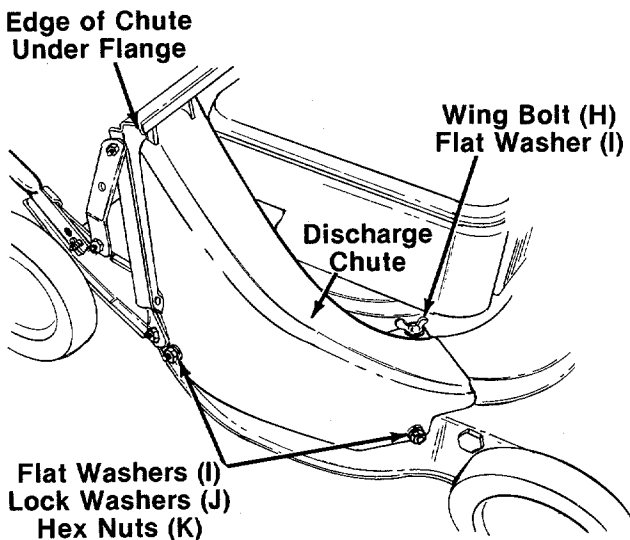

FIGURE 16.
- a. Slide the top edge of the discharge chute under the flange on the catcher panel. See figure 16.
- b. Place the two holes on the bottom edge of the discharge chute over the two bolts which protrude from the deck. See figure 16.
- c. Attach the front of the discharge chute to the deck with one flat washer (I) and wing bolt (H).
- d. Secure the bottom of the discharge chute to the deck with flat washers (I), lock washers (J) and hex nuts (K). See figure 16.